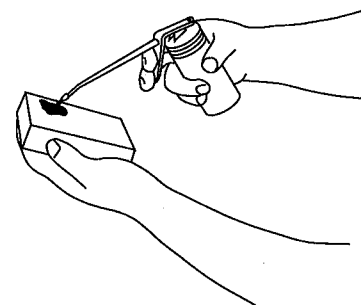

Figure 21
5. Apply one tablespoon of SAE 30W oil to the air filter (Fig. 21).